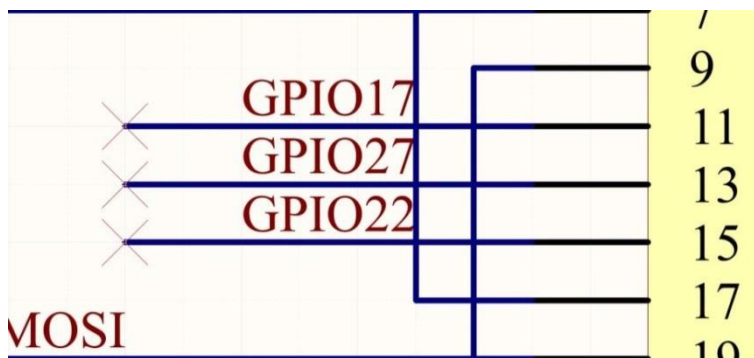

Figure 8. Placed No ERC directives
- d) Continue to place **Specific No ERC directives** to the 2nd & 3rd errors as shown in Figure 8 below.